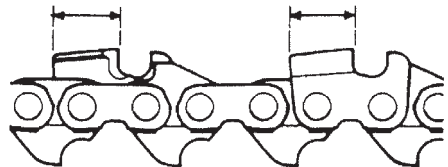

Fig. 42
- 5) Keep all cutters the same length. (Fig. 42)